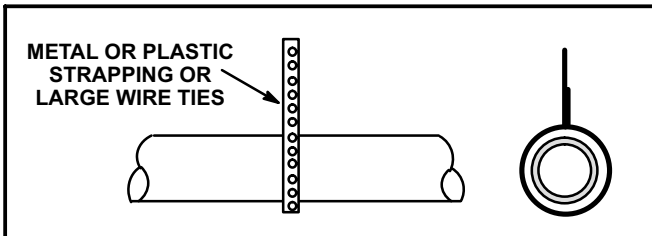

FIGURE 4
- 8 - Suspend furnace vent pipe with hangers to support vent termination. See figure 4.
7 - Suspend furnace vent pipe with hangers to support vent termination. See figure 4.